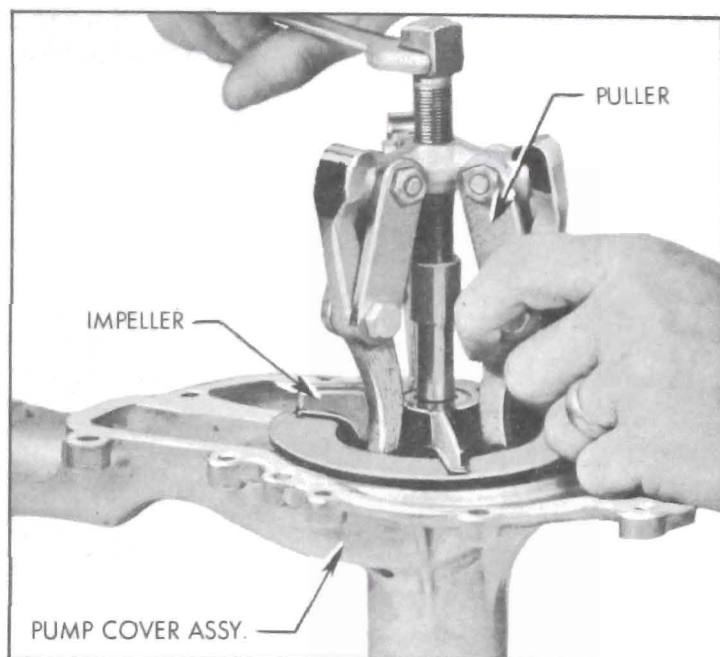

Figure 2-38—Pulling Water Pump Impeller
1. Pull impeller from pump shaft using care to avoid any end thrust on bearings. See figure 2-38.